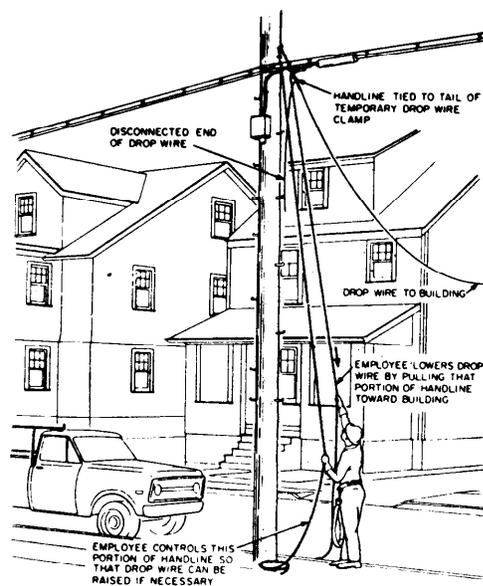

Fig. 12 - Lowering Drop Wire
- (g) Return to the ground level. Untie the handline from the base of the poles or ladder rungs, and, when no vehicles or pedestrians are approaching, lower the drop wire to the ground. The technician shall have control of both ends of the handline (Fig. 12) so a pull can be exerted in either direction to work the drop wire among tree branches or to raise the wire quickly if necessary.